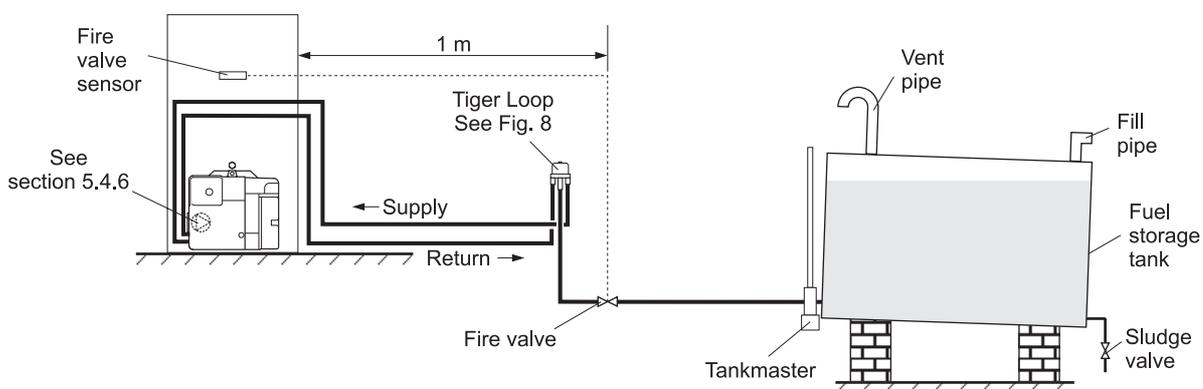

Fig. 7 - Tiger loop system
5.4.5 Tiger Loop system - (See Figs. 7 and 8)
- 2 The Tiger Loop is connected close to the boiler as a two pipe system (omitting the non-return valve) as shown in Fig. 7. Refer to the manufacturers instructions supplied with the Tiger Loop. The Tiger Loop **must** be mounted vertically.
- 3 To be used with a Tiger Loop system, the burner **must** be fitted with an additional flexible fuel line (a flexible fuel line (600 mm) and $\frac{3}{8}$ " to $\frac{1}{4}$ " BSP male adaptor are available to purchase from Grant Engineering (UK) Limited - Part No. RBS104). See Section 5.3.6.